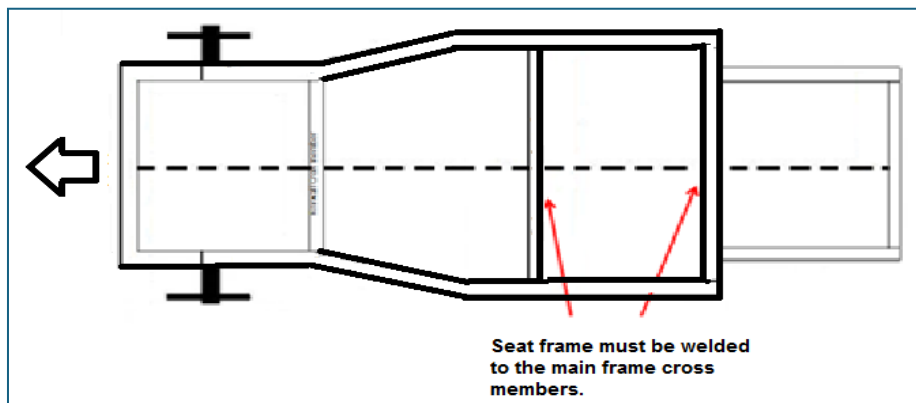

Figure 13
- 20.3** Seat must be mounted to a seat frame that is welded to the race-car main frame structure (*Figure 13*). Seats must be mounted to the seat frame as per the manufacturers' instructions, using materials recommended by the manufacturer.